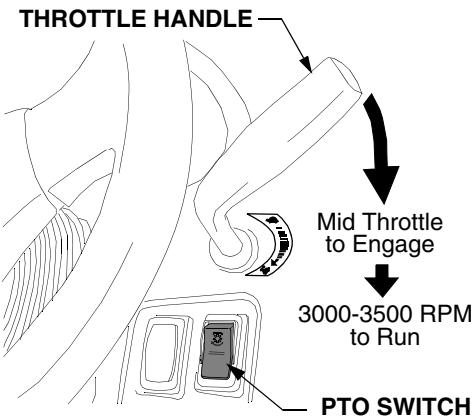

Figure 20
- Move the throttle handle to the mid throttle position. See Figure 20.
- Push the top of the PTO switch downward to engage the PTO (See Figure 20). The PTO light on the instrument panel will come on.